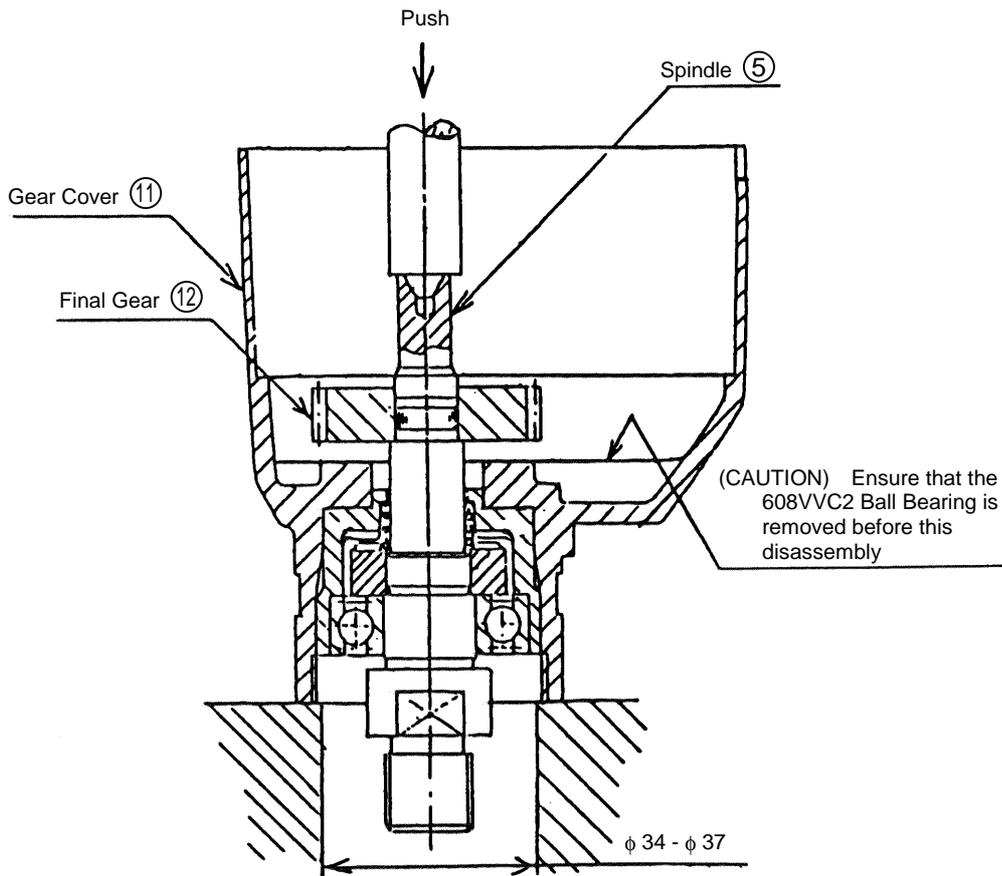

Fig. 10
Lightly tap an open area (inner cover side) of the Gear Cover ⑪ with a wooden or plastic hammer to loosen and remove the Second Pinion ⑱ and 608VVC2 Ball Bearing ⑮. (At this time, ensure without fail that the 608VVC2 Ball Bearing is removed. If it is forgotten, subsequent disassembly of the Spindle ⑤ cannot be accomplished.) Then remove the Steel Ball ⑥ from the rear portion of the Spindle ⑤. Next, remove the Dust Seal ④ by turning it clockwise with a J-168 Special Wrench (Special Repair Tool, Code No. 970950). Then, as illustrated in Fig. 10, support the forward end of the Gear Cover ⑪ with an appropriate jig, and push down on the end of the Spindle ⑤ with a hand press to remove it from the Gear Cover.